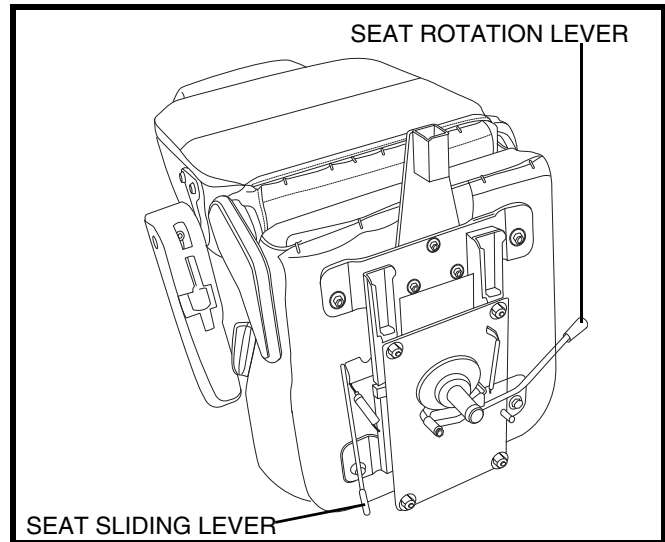

Figure 15A. Seat Adjustment Levers
1. Push forward on the seat rotation lever to disengage the seat. See figure 15A.
You can reposition the seat forward or rearward to adjust the distance between the seat and the tiller. See figure 15A.